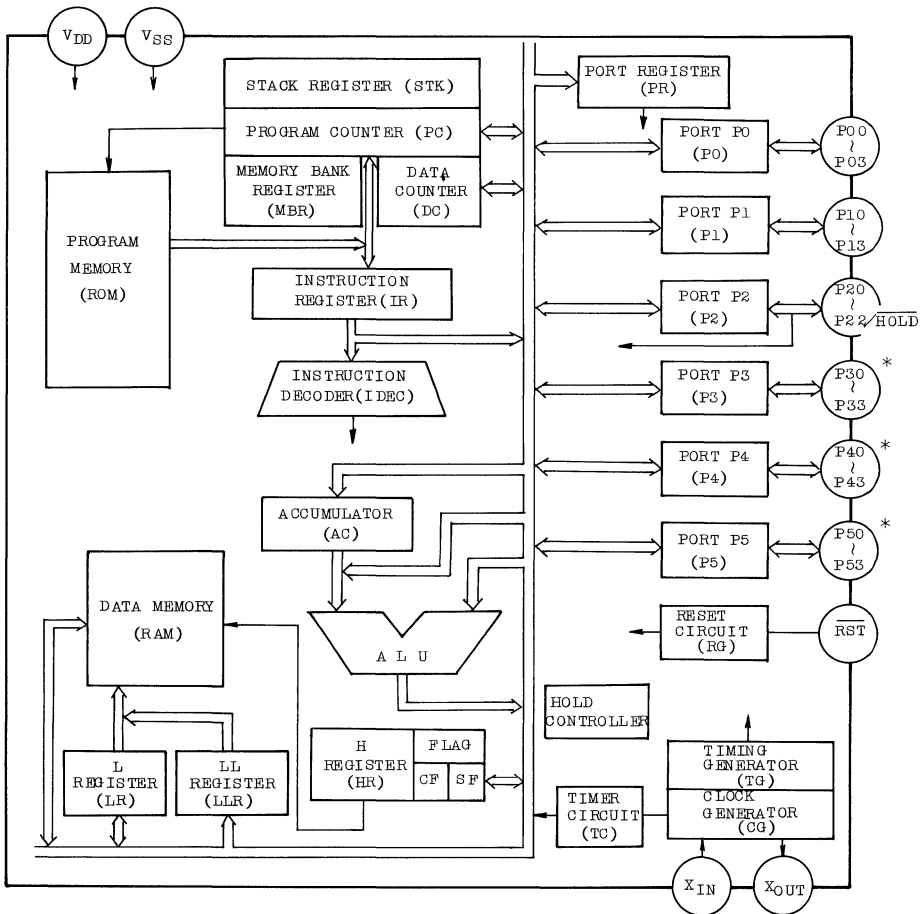

Fig. 3.1 (1) TLCS-42 Block Diagram
The block diagram in Fig. 3.1 (1) shows the configuration of TLCS-42 series.